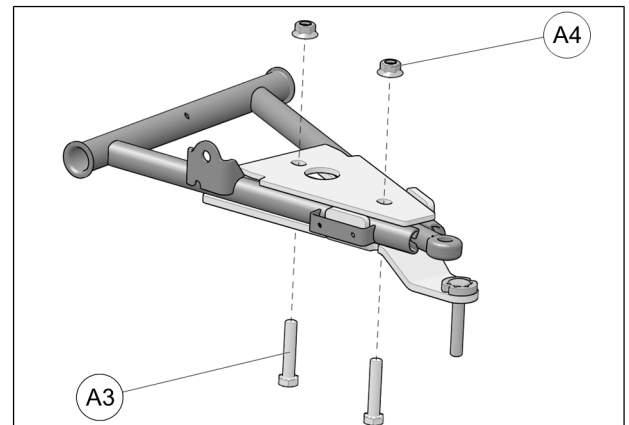

Fig. 22
6. Insert the M10x50mm bolts (A3) through the bottom and secure the two parts together with the nuts (A4) provided. Tighten assembly to 50 N•m [37 lb•ft] of torque. See Fig. 22